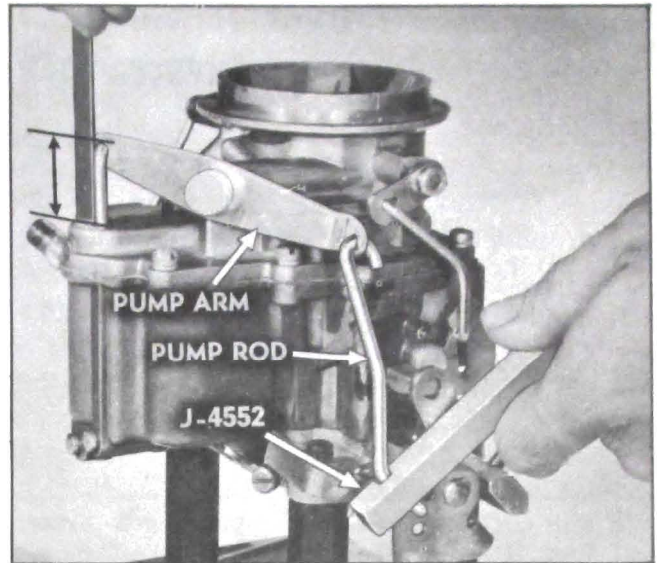

Figure 3-74—Accelerator Pump Adjustment
15. Install air horn screws and washers. Install accelerator pump rod with lower end in medium stroke hole. Install new cotter pins in pump plunger and pump rod. Back out throttle stop screw and completely close the throttle valves. Then measure vertically from upperside of pump plunger offset to air horn casting. Bend pump rod as required to obtain $\frac{7}{8}$ " measurement using Tool J-4552. Then open throttle wide; pump arm must clear air horn at least $\frac{1}{32}$ ". See figure 3-74.